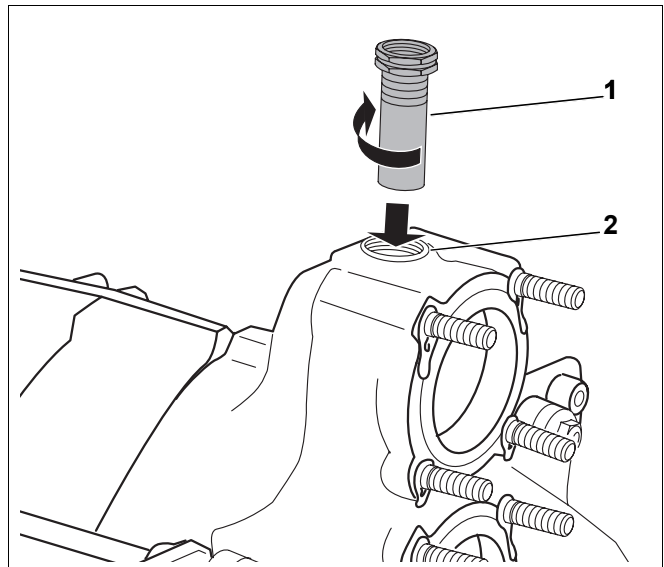

Fig. 20 Sensor well installation
- Seal the sensor well $\frac{3}{4}$ " (Length: 110 mm) (Fig. 20, **Item 1**) from above into the $\frac{3}{4}$ " threaded hole of the flow connection (Fig. 20, **Item 2**).